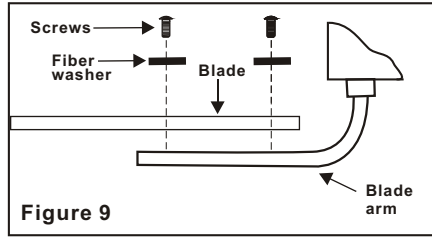

Figure 9
**Step 1** Attach the blades to the blade arms using three screws and fiber washers as shown in Fig. 9. Start a screw into the arm, do not tighten. Repeat for the 2 remaining screws and washers.